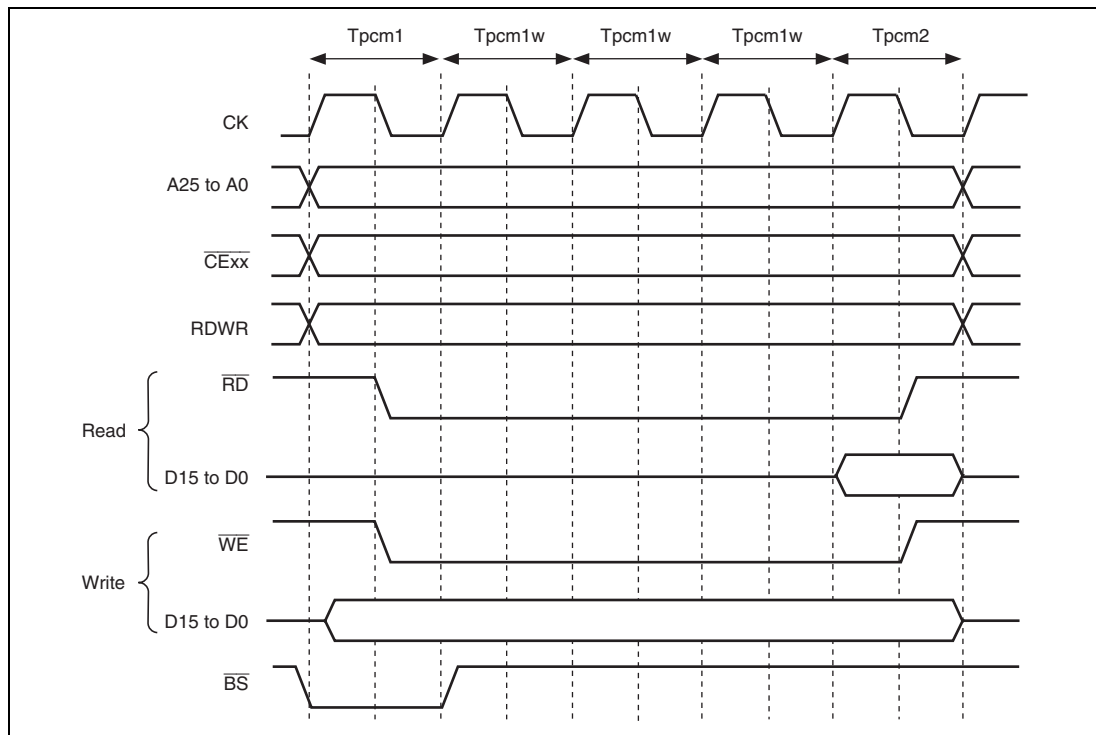
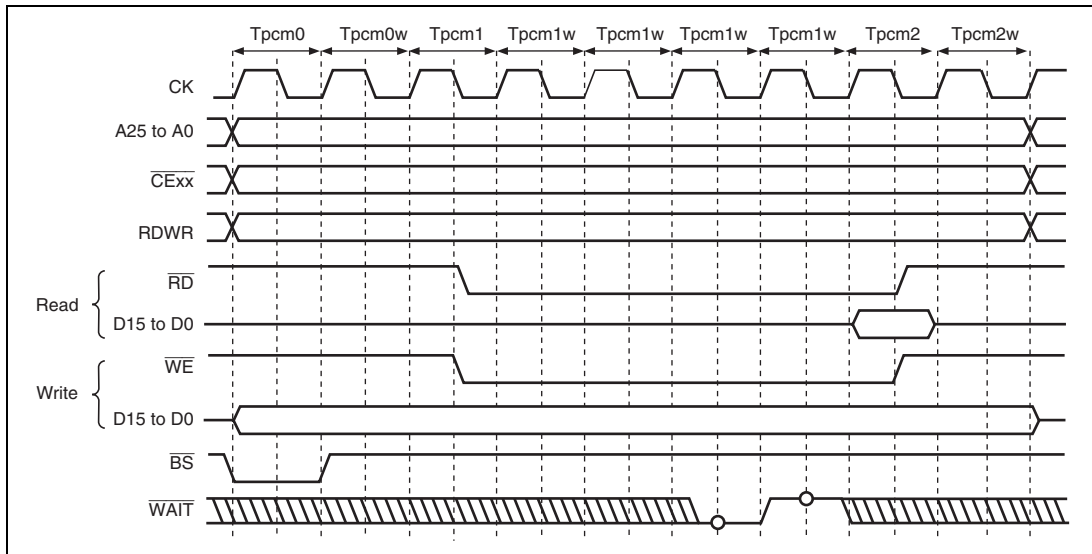

Figure 9.39 Basic Access Timing for PCMCIA Memory Card Interface
Figure 9.40 Wait Timing for PCMCIA Memory Card Interface
Basic Timing for Memory Card Interface: Figure 9.39 shows the basic timing of the PCMCIA IC memory card interface. If areas 5 and 6 are specified as the PCMCIA interface, accessing the common memory areas in areas 5 and 6 automatically accesses the bus with the IC memory card interface. If the external bus frequency (CK) increases, the setup times and hold times for the address pins (A25 to A0), card enable signals ($\overline{CE1A}$, $\overline{CE1B}$, $\overline{CE2A}$, $\overline{CE2B}$), and write data (D15 to D0) to the \overline{RD} and \overline{WE} signals become insufficient. To prevent this error, this LSI enables the setup times and hold times for areas 5 and 6 to be specified independently, using CS5WCR and CS6WCR. In the PCMCIA interface, as in the normal space interface, a software wait or hardware wait using the \overline{WAIT} pin can be inserted. Figure 9.40 shows the PCMCIA memory bus wait timing.